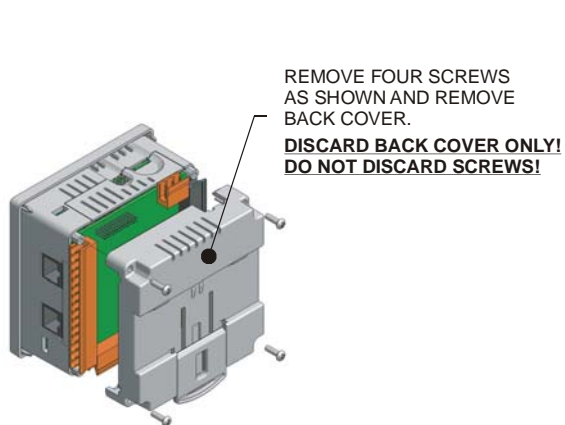

Figure 1 - Removing Back Cover of the XLE
2. Remove the four screws on the back of the XLe unit and remove the back cover. The back cover can be discarded or saved, but it will be replaced with the extended back cover that ships with the communication add-on. Screws are re-used (Figure 1).